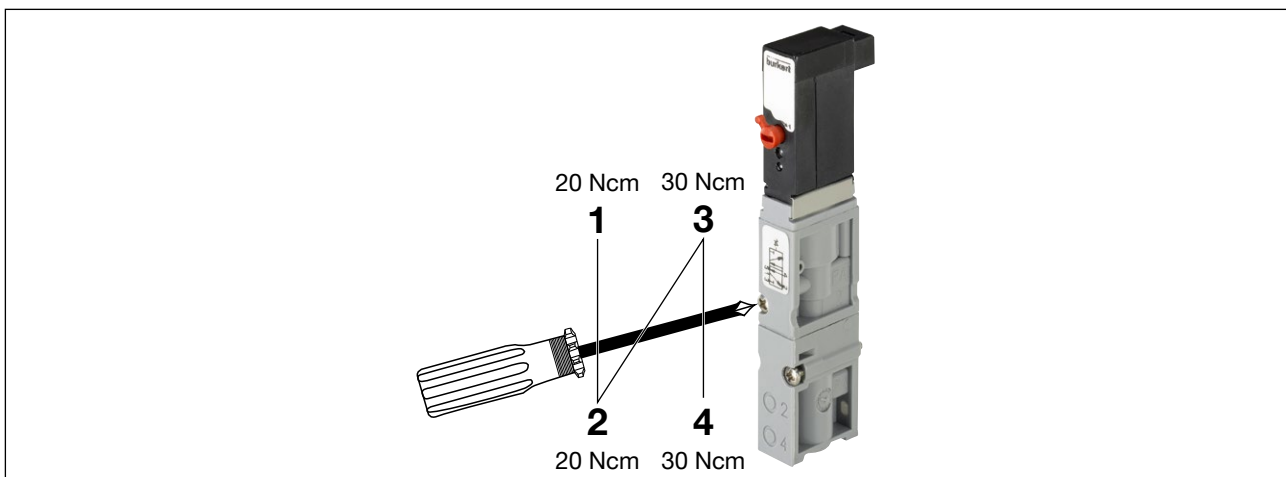

Figure 33: Tightening the screws when replacing the valve
- Tighten the fastening screws in diagonal pairs while observe the permitted tightening torque (see "Figure 33").